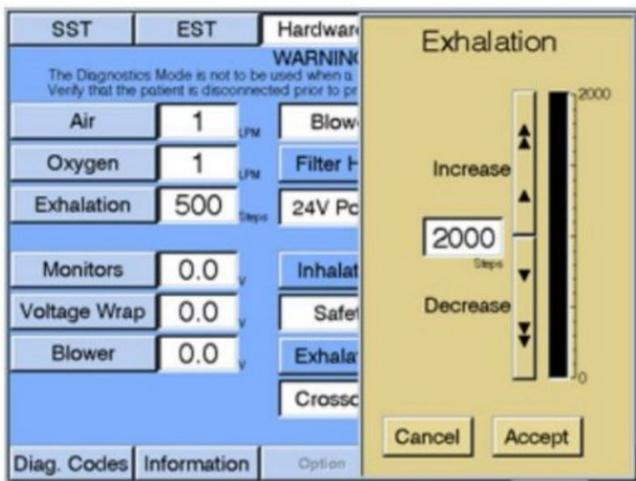

Figure 8-18: Diagnostic Mode - Selecting Exhalation Position
- On the Hardware screen, touch safety (white background, as shown in figure 8-18 on page 8-21 of Service Manual) to energize the safety solenoid.